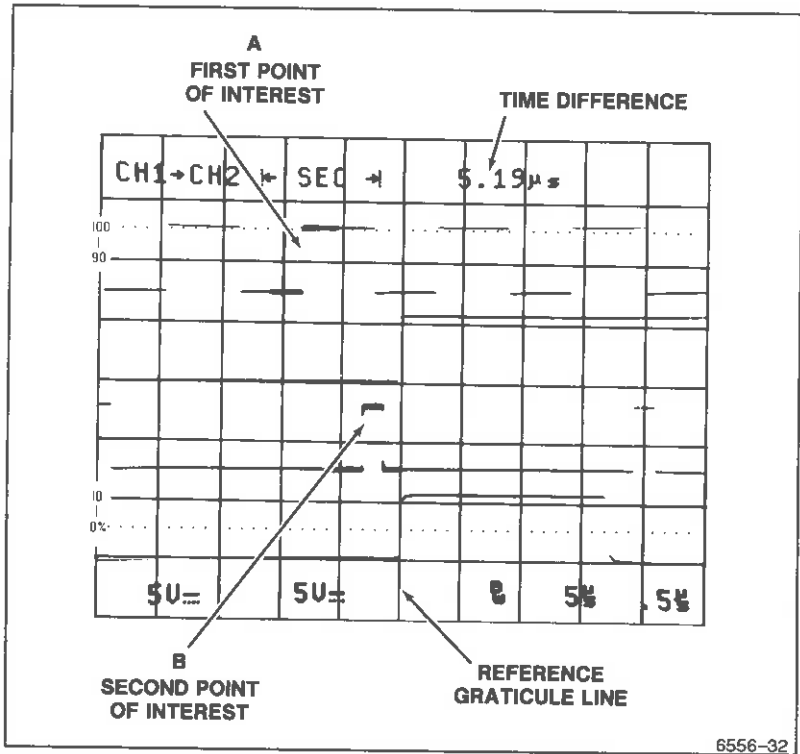

Figure 5-6. Time difference between the two delays.
7. Set the \leftarrow OR DELAY control so that the reference-delay intensified zone is positioned at the first point of interest (point A, Figure 5-6) and the B sweep display of that point is at the center vertical graticule line.
8. Set the \rightarrow control so that the delta-delay intensified zone is positioned at the second point of interest (point B, Figure 5-6) and the B sweep display of that point is at the center graticule line. The time difference between the two points of interest is displayed at the top of the screen.